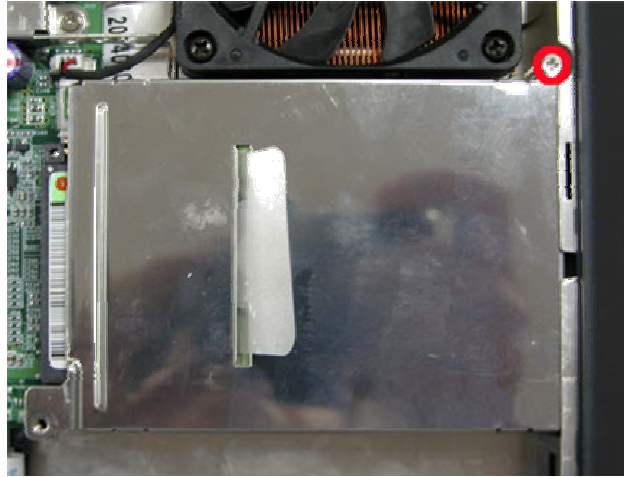

Fig. 4 Screw retaining the HDD module
1. Remove the screws as shown in Fig. 4